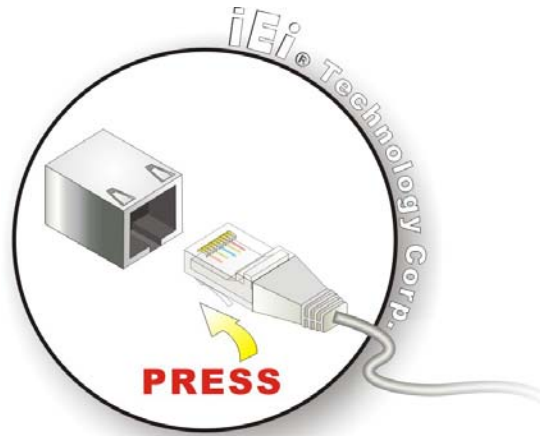

Figure 2-30: LAN Connection
- Step 2:** **Align the connectors.** Align the RJ-45 connector on the LAN cable with one of the RJ-45 connectors on the bottom panel of the AFL-W19A/W19B/17D/W15A-N270. See Figure 2-30..